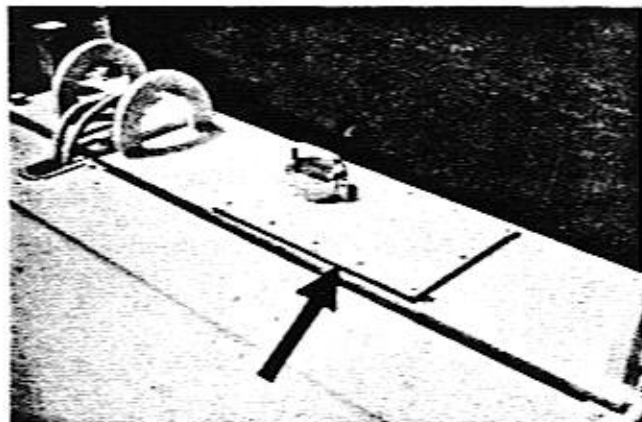

Figure 13-1
2. Remove the twelve (12) 5/16-18 cap screws and lockwashers and remove the tank cover. See Figure 13-1.